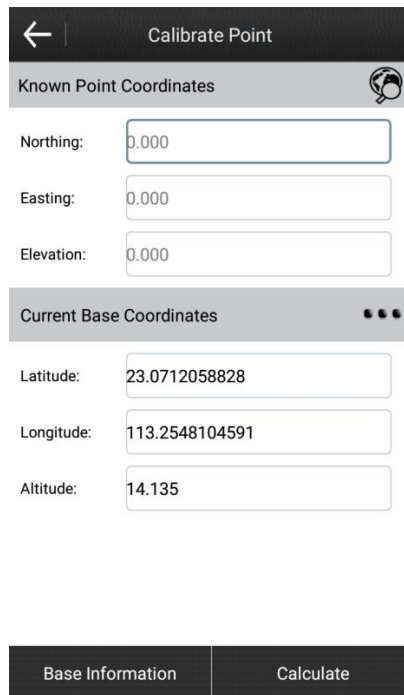

Figure7-8
1. Click “base point calibration” to enter the interface shown as Figure 7-8.